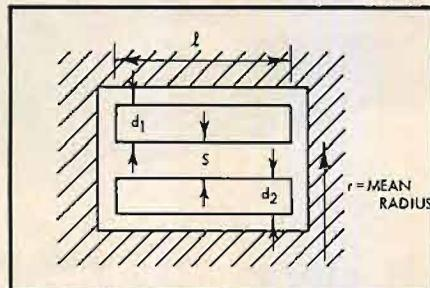
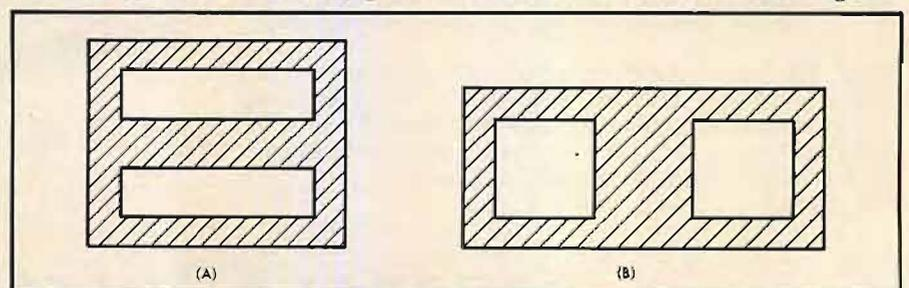

Fig. 14. Dimensions required for calculation of leakage inductance.
Fig. 15. Laminations having long windows (A) have lower leakage inductance than those having square windows as at (B).
the symbols having the meaning shown in Fig. 14. From this it will be seen that the leakage inductance is increased by an increase in the radius r of the winding, by an increase in S , the spacing between coils or decreased by an increase in l , the wound length of the coil. A lamination having a long narrow window such as that of (A) in Fig. 15 will give a lower leakage inductance per turn than one with a square window such as that at (B). This is not quite the advantage that it appears at first sight, for laminations with long windows tend to have long iron paths and thus have a lower primary inductance L_p per turn than one with a square window. Nevertheless there is an advantage to be gained by an appropriate choice of lamination shape.